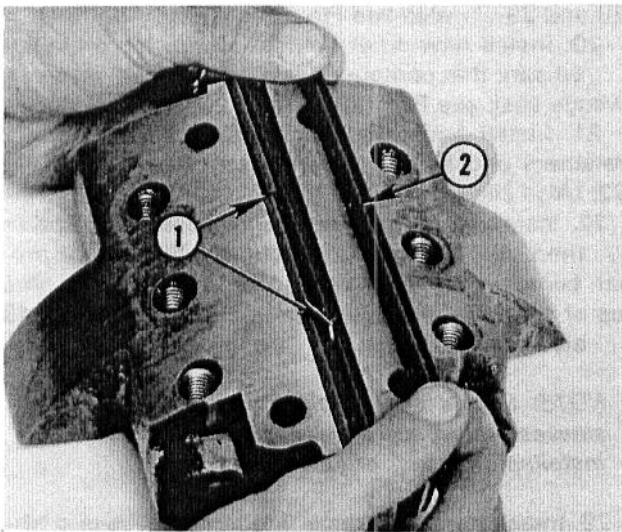

Fig. 41 — Removing/Installing Barrel Vane "Quad" Seal and Back-Up Washers
15. Remove the seals from the barrel vane as shown in Fig. 41.